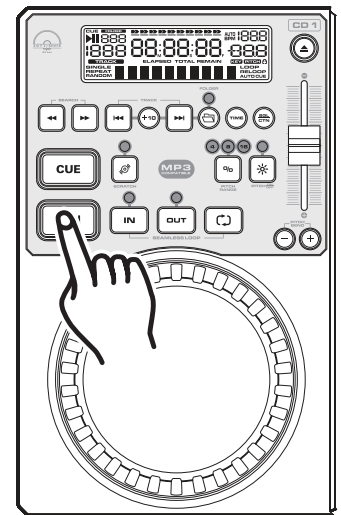
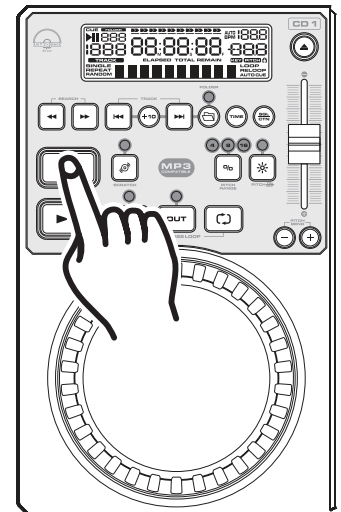
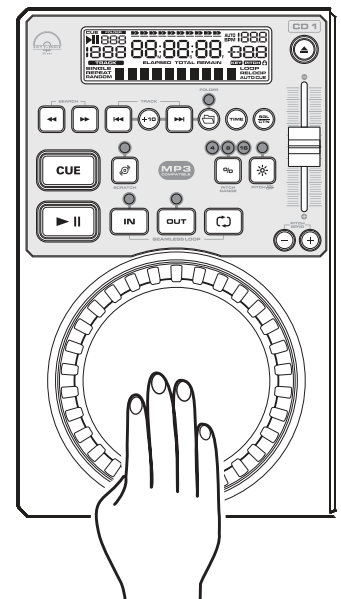

Figure 11
Figure 12
Figure 13
3. STARTING PLAYBACK - *Figure 11*
6. STOPPING PLAYBACK - *Figures 11 & 12*
- 1) Press the *PLAY/PAUSE BUTTON (11)* during playback. This will pause playback at the exact same point the *PLAY/PAUSE BUTTON (11)* was pressed.
- 2) Press the *CUE BUTTON (13)* during playback. This will pause playback and return the track to the last set cue point.
This feature allows you to scroll through a track frame by frame, allowing you to find and set a starting cue or loop point. To use the scroll function you must first be in Pause Mode (see section 4) or Cue Mode (see section 8). Once you are in Pause or Cue mode, turn the *JOG WHEEL (9)* to scroll through the track (Figure 13). Turning the wheel in a clockwise direction will advance the frame search and turning the wheel in a counter-clockwise direction rewinds the frame search. When you use the *JOG WHEEL (9)* the monitor (headphone level) function allows you to hear what you are scrolling through. Once you reach your desired starting point you can set a cue (starting) point by pressing the *PLAY/PAUSE BUTTON (11)* as in Figure 11. Pressing the *CUE BUTTON (13)* as in Figure 12 will now return you to the point you just set.